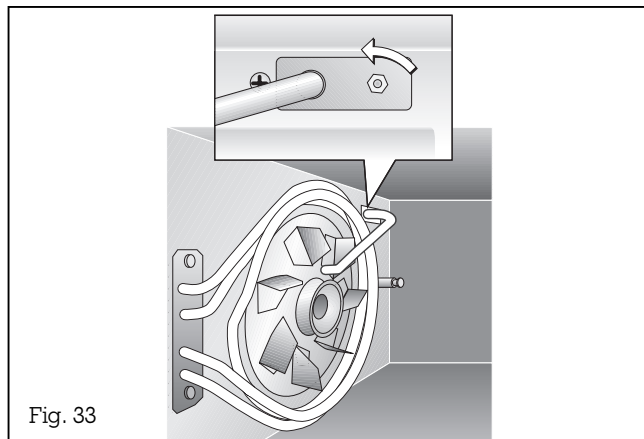

Fig. 33
- Dismantle the inlet pipe by first removing the nut (13 mm) and by then pulling the inlet pipe out of the mount (Fig. 33).